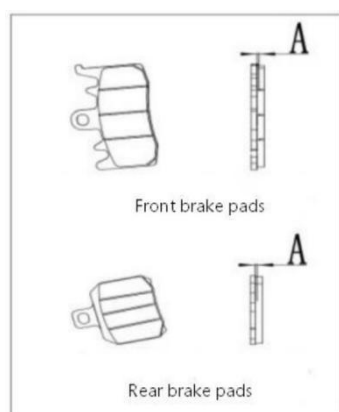

Figure 27 Inspection of Front Brake Lining
9.2. Inspection of front brake lining (Figure 27)